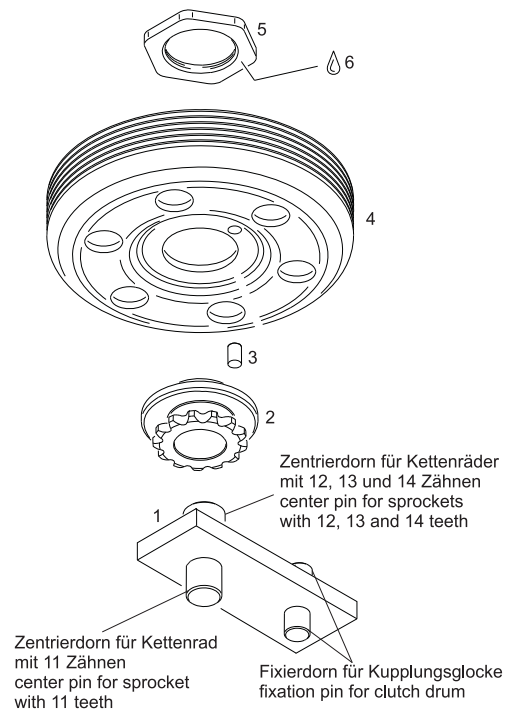

Fig. 15-1
The chain sprocket (item 2) is attached to the clutch drum (item 4) with a hex. nut (item 5) and torque is transmitted by a needle pin (item 3) (see fig. 15-1). The proper changing or renewal of the chain sprocket is only feasible when using the appropriate fixture (item 1, ROTAX part no. 277 362). To change or renew the chain sprocket proceed as follows:
- ➔ Clamp fixture (1) for the chain sprocket in a vice.